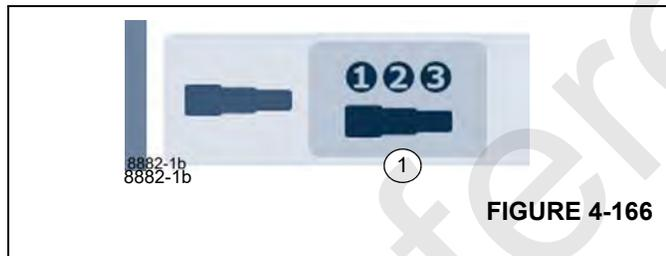

FIGURE 4-166
To open: Select symbol (1), (Figure 4-166) and confirm. The menu is opened. The Semi-Automatic Telescope Mode is used to select the amount of telescoping for each boom section.